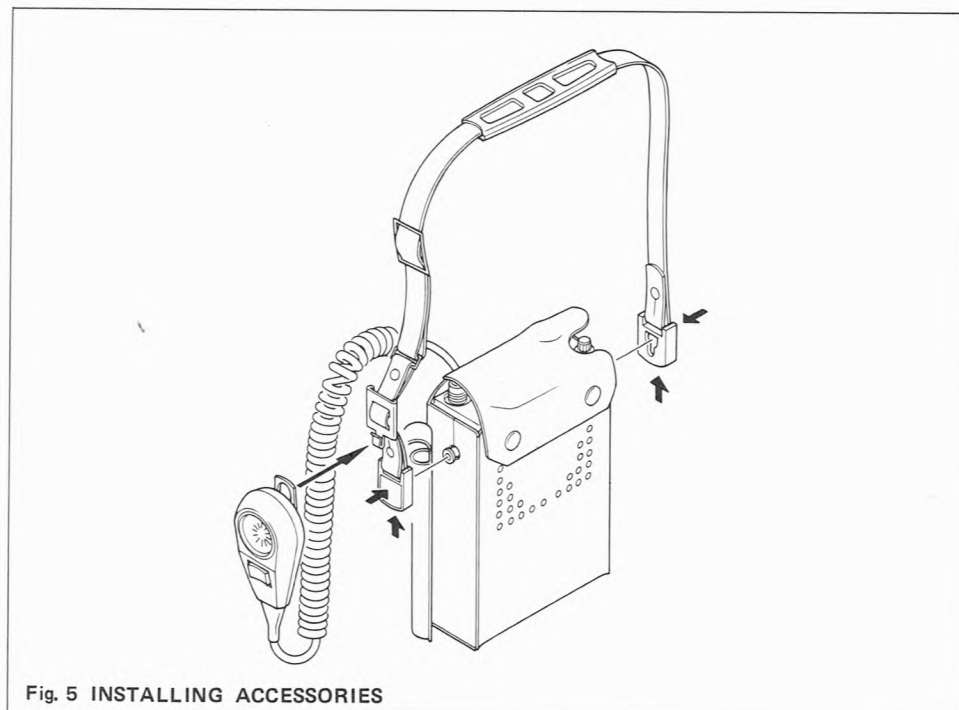

Fig. 5 INSTALLING ACCESSORIES
Attach the supplied shoulder belt to this post. See Fig. 5.
1. For portable operation, attach the supplied shoulder belt to the strapping posts on the unit, and replace the microphone hanger in a convenient position on the shoulder belt. For mounting instructions, see Fig. 5.